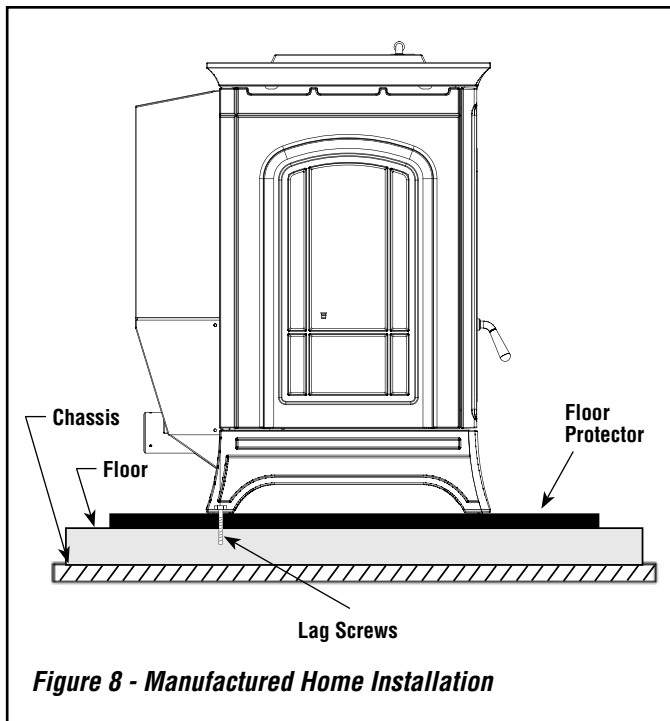

Figure 8 - Manufactured Home Installation
- The stove must be permanently bolted to the floor using 1/4" diameter lag screws. The lag screws must be an adequate length to extend through the hearth pad and into the floor as shown in **Figures 8 and 9**. Install the lag screws as shown in these figures. Two lag screws must be used.